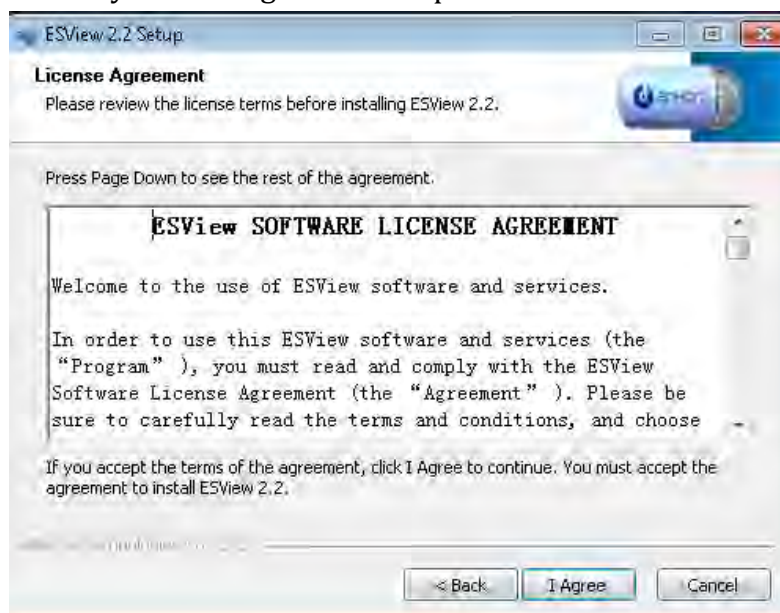

Figure 3-2: Software License Agreement Dialog Box
2. The Software License Agreement dialog box (Figure 3-2) is displayed. Scroll down to view the agreement in its entirety. Click “I Agree” to accept.